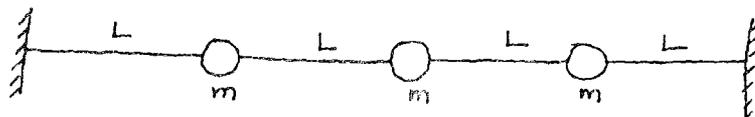

Fig. 14. (a)
14. (a) The tension T in the string with three equal masses attached to it can be assumed to remain constant for small angles of oscillation. If the masses are placed at equal distances apart as shown in Fig. 14. (a), determine the natural frequencies and the principle modes of vibration of the system.
- (b) (i) Derive the differential equation of motion for the longitudinal vibration of uniform bars. (8)
- (ii) Determine the normal modes of transverse vibration of a simply supported beam of length l and uniform cross section as shown in Fig. 14. (b) (ii). (8)